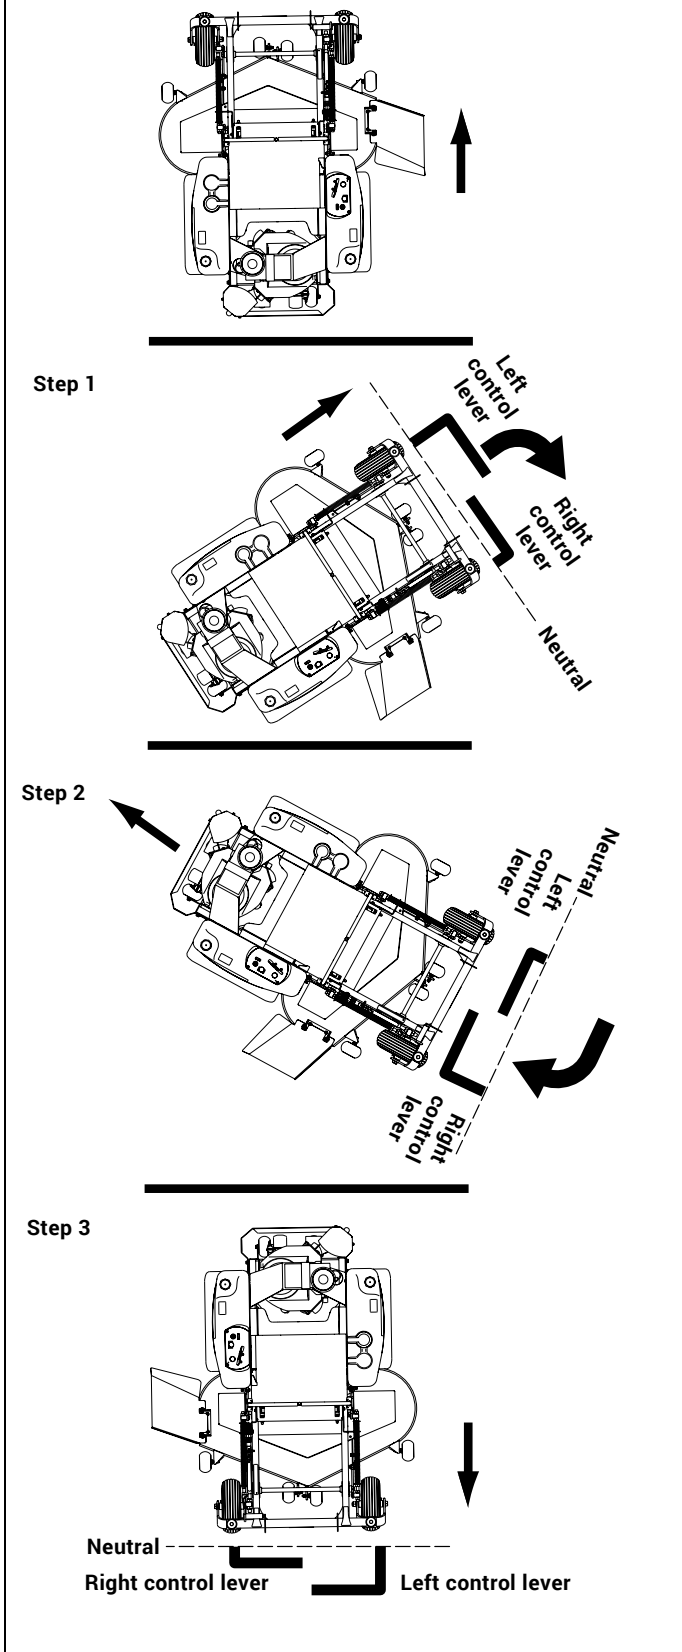

Figure 3-18
1. Move the left steering control lever farther forward from neutral than the right steering control lever and start the turn. Figure 3-18
2. Next, pull back on the steering control levers until they pass neutral and the machine starts to go rearward. Figure 3-18
3. Pull the right steering control lever farther rearward from neutral than the left steering control lever until the rear of the machine pivots around. Figure 3-18
4. Then, push the steering control levers forward until they both pass neutral and the machine starts to go forward. Figure 3-18
5. Push the left steering control lever farther forward from neutral than the right steering control lever and finish the turn. Figure 3-18